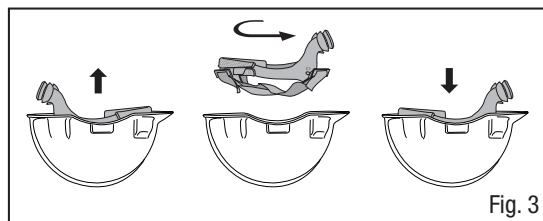

Fig. 3
2. Assure to re-configure the head suspension in the hardhat to face the brim backwards as is shown in Fig.3.